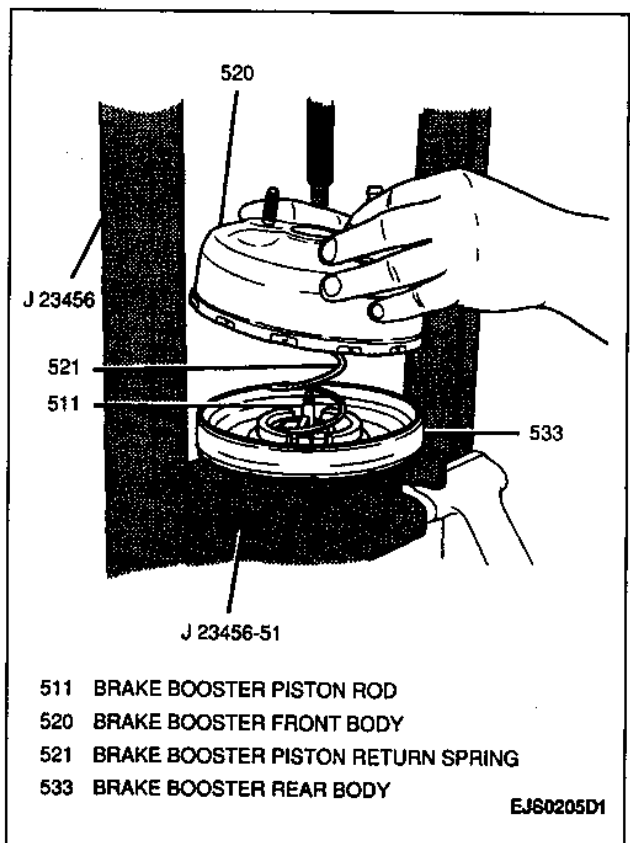

Figure 20—Installing Brake Booster Front Body to Rear Body
17. Brake booster front body to rear body, aligning piston return spring (Figure 20).